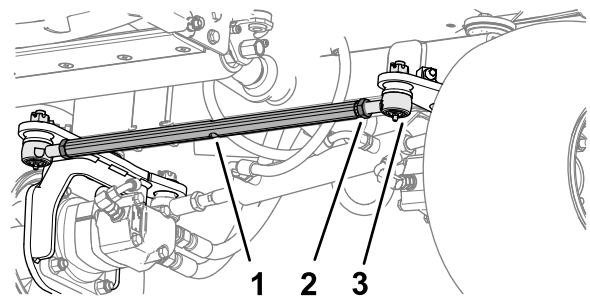

Figure 75
- At the front of the rear wheel, loosen the 2 jam nuts securing the track rod assembly to the rod ends (Figure 75).
- Align the wheels by rotating the track rod (Figure 75).
- Tighten the 2 jam nuts to secure the track rod assembly and the rod ends (Figure 75).